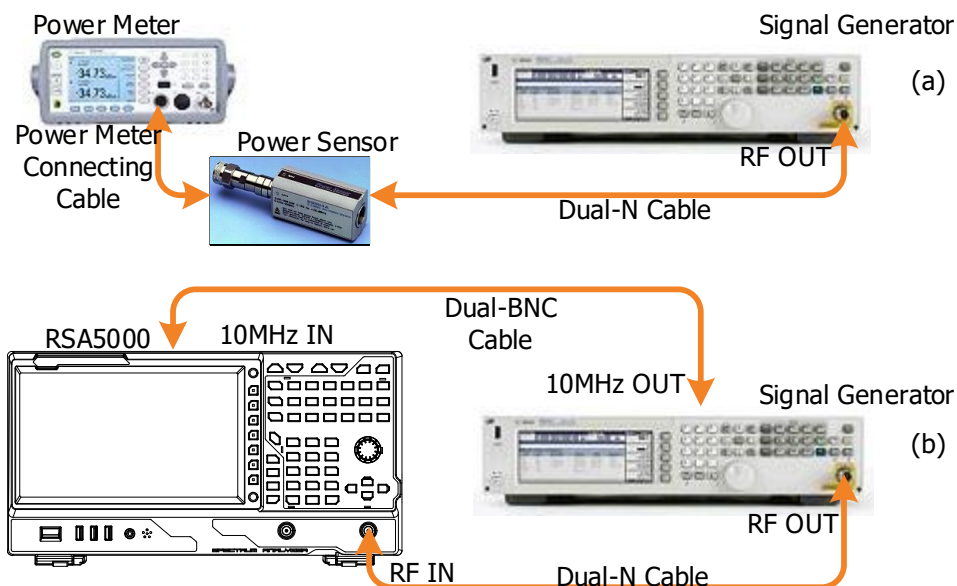

Figure 2-4 Frequency Response Test Connection Diagram
2. Connect the output terminal of the signal generator with the power sensor, as shown in Figure 2-4 (a).
8. Connect the output terminal of the signal generator with the RF input terminal of the spectrum analyzer by using the dual-N cable, as shown in Figure 2-4 (b).